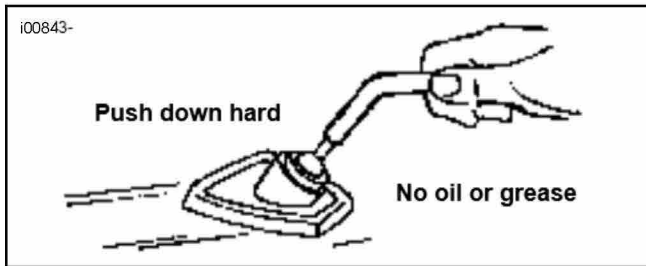

Figure 1. Uprights into Shield
1. See Figure 1. Support windshield on a non-abrasive surface and push an upright into each socket. DO NOT USE OIL, GREASE, OR SILICONE. Use water or saliva as a lubricant.